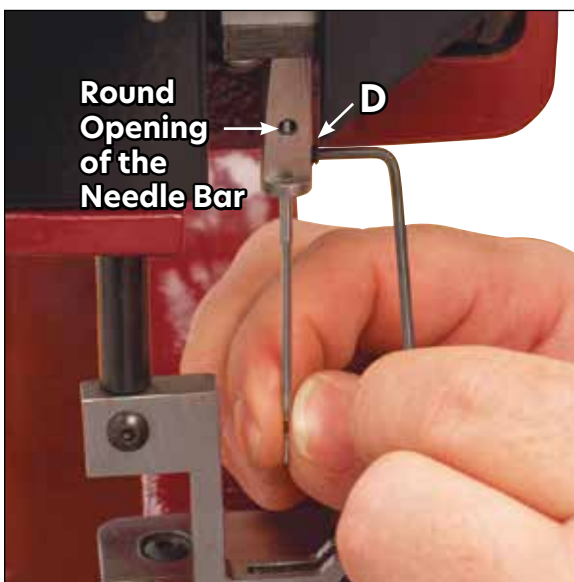

Figure 26
- 1) Loosen the Needle Screw (**D**) with the Allen wrench provided and remove the old needle. (**Figure 26**)